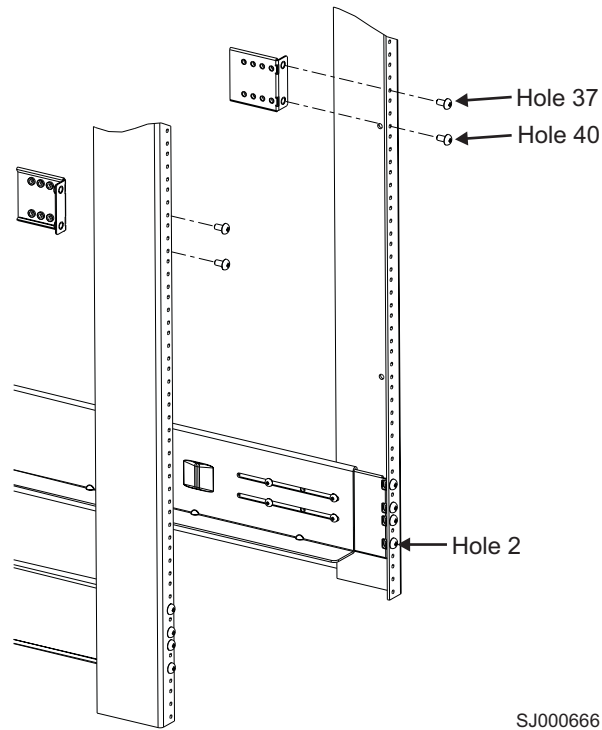

Figure 27. Attaching the L-shaped upper mount brackets to the rails
7. Attach the two L-shaped upper mount brackets (items 3b and 4b) to the cabinet rails. See Figure 27 for orientation. Use two of the 1/4–20 x 1/2 in. Phillips panhead screws with lock washers per bracket. Tighten the screws.